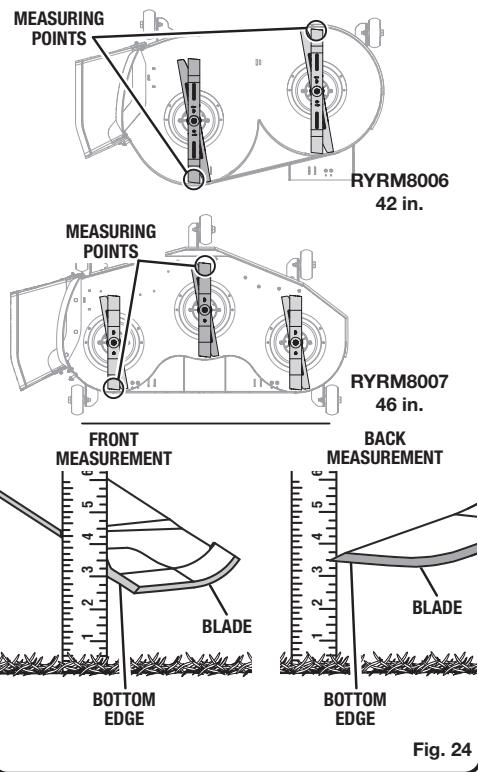

Fig. 24
- Position the blade nearest the side discharge chute so that the ends now point toward the front and back of the mower. See figure 24.